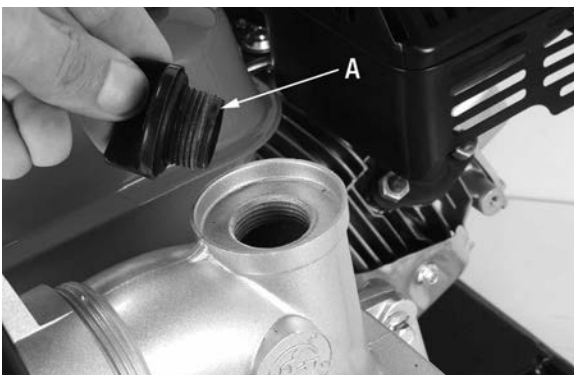

Figure 9
- 1) Unscrew and remove priming cap (A) Fig.9, fill the water pump with water all the way up close to the priming cap thread.
- 7) If you notice that the water pump is not pumping water, this is probably because there is air trapped in the water pump. Loosen the priming cap (A) Fig.9 to release trapped air and retighten cap once the correct flow of water is obtained.